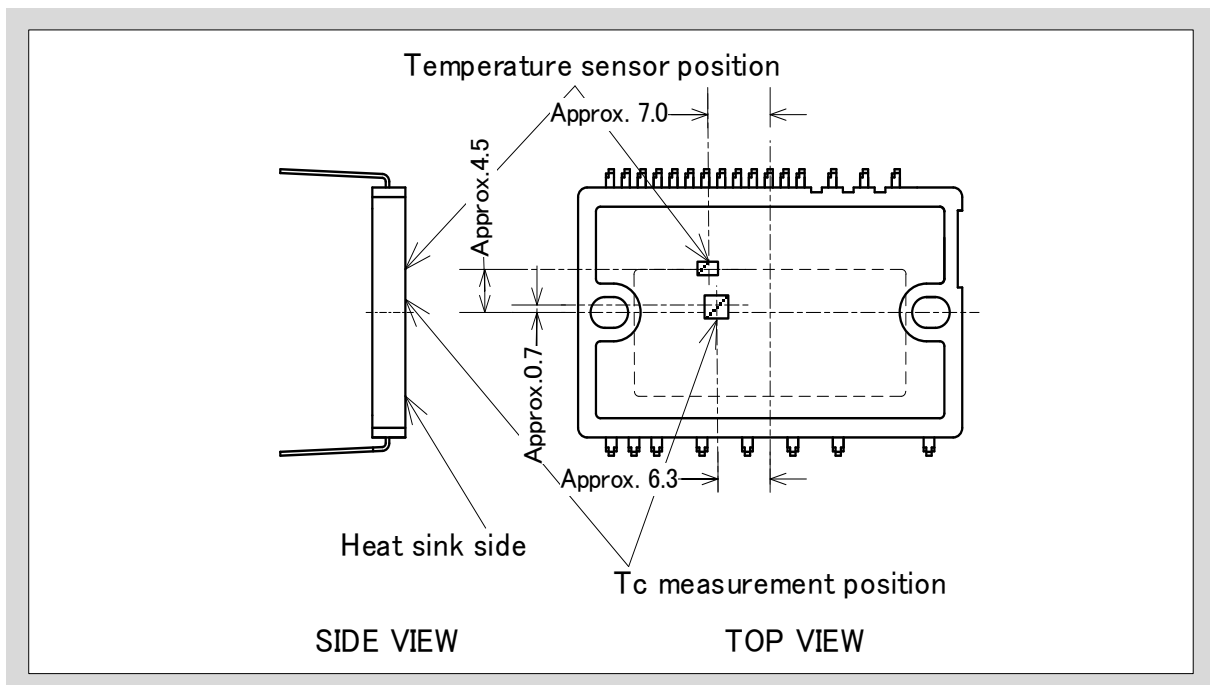

Fig. 6-1 Temperature sensing and T_c measurement points
- If the IGBT or FWD junction temperature is higher than the maximum junction temperature rating, it might cause damage to the chips. Some types of the products have the over heating (OH) protection function which works when the LVIC chip temperature exceeds the maximum junction temperature rating. However, if the temperature rises too quickly, the OH protection might not work.
- When selecting a heat sink, please verify the chip temperature T_{vj} by measuring T_c at the position shown in Figure 6-1, and calculating the T_{vj} from device power dissipation and thermal resistance. In addition, this product has a built-in temperature sensor, and T_{vj} can be confirmed by the analog voltage that is output according to the LVIC chip temperature. Please refer to it when selecting the heat sink.